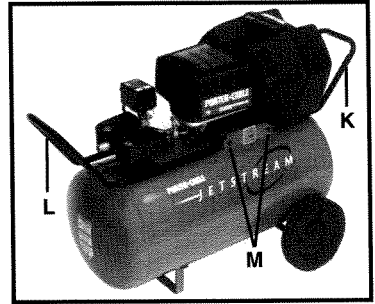

Fig. 5
1. See Fig. 5. Position legs of handle (L) inside compressor saddle. Align holes in handle legs with holes in saddle. Position legs of hose rack (K) inside the handle legs. Align holes in hose rack with those in the handle and saddle. Use a  $\frac{3}{8}$ " wrench to secure handle and hose rack in place, using the four screws provided, (two screws (M), through each side of saddle).